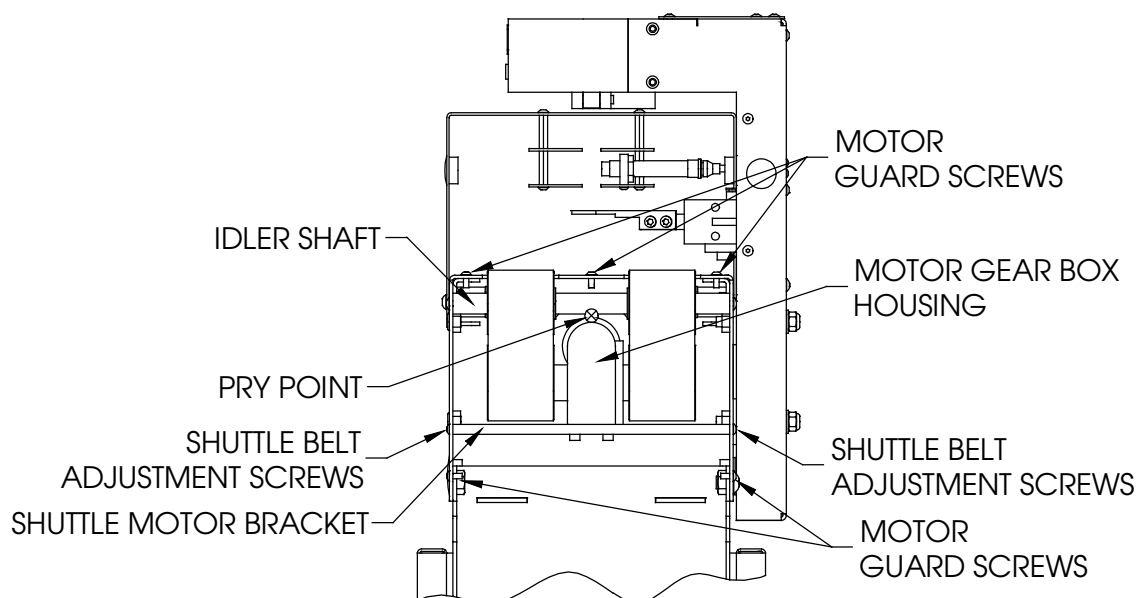

Figure 19. Shuttle Belts Adjustment
1. Remove the (5) five (3/32 Hex) Motor Guard Screws shown in Figure 19 that hold the Shuttle Motor Guard. Remove the Shuttle Motor Guard.
2. Loosen the (4) four Shuttle Belt (3/32 Hex) Adjustment Screws. This will allow the Shuttle Motor Bracket to move in the vertical adjustment slots in the Shuttle.